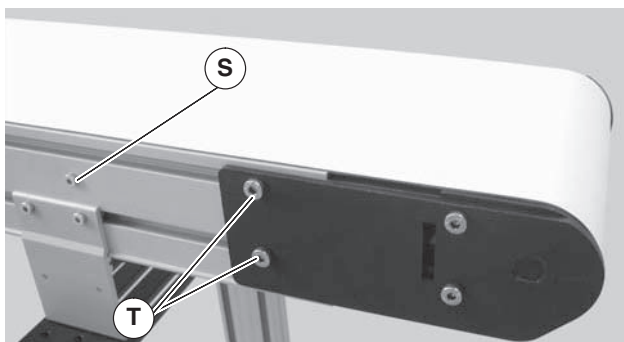

Figure 30
2. On the side of conveyor to be adjusted, loosen two (2) tail clamp screws (Figure 30, item T).